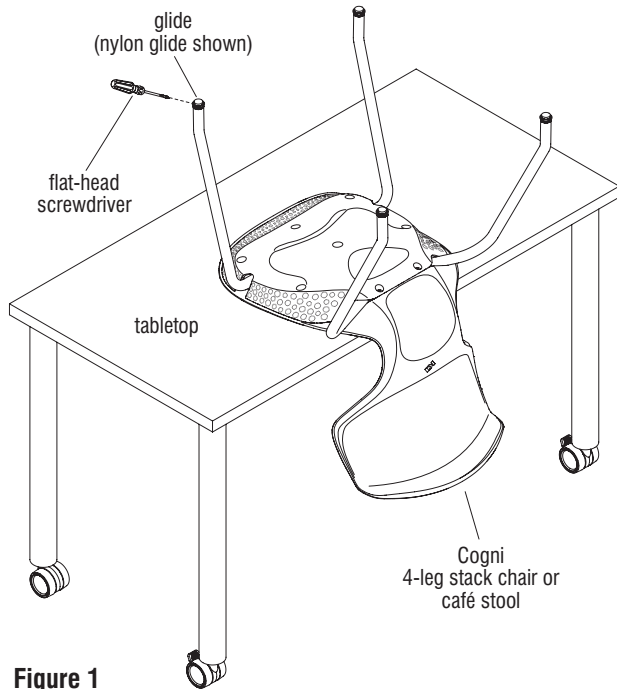

Figure 1
1. Place the chair upside down onto a soft, protective surface, or with the seat portion turned onto a table as illustrated (Figure 1).
2. Using a flat-head screwdriver, wedge the flat tip of the screwdriver in between the bottom of the damaged glide cap and the top of glide body, then pry upwards until the old glide cap becomes free from glide body and pops off (Figure 1 & Details A & B).